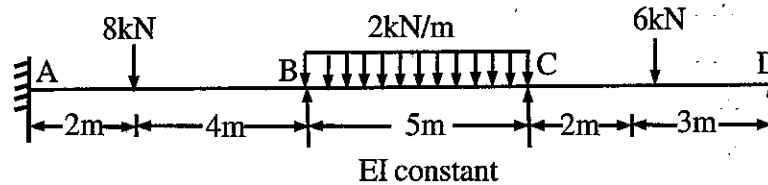

Fig. 6
Q.3 Using slope deflection method solve the structure shown in Fig. 6. Plot the bending moment diagram.